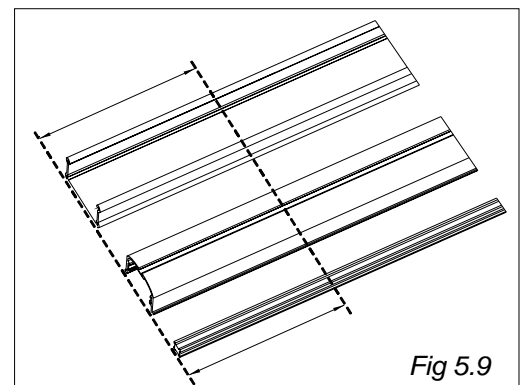

Fig 5.9
- 9) Measure distance and cut components to the required length. (See Fig 5.9)